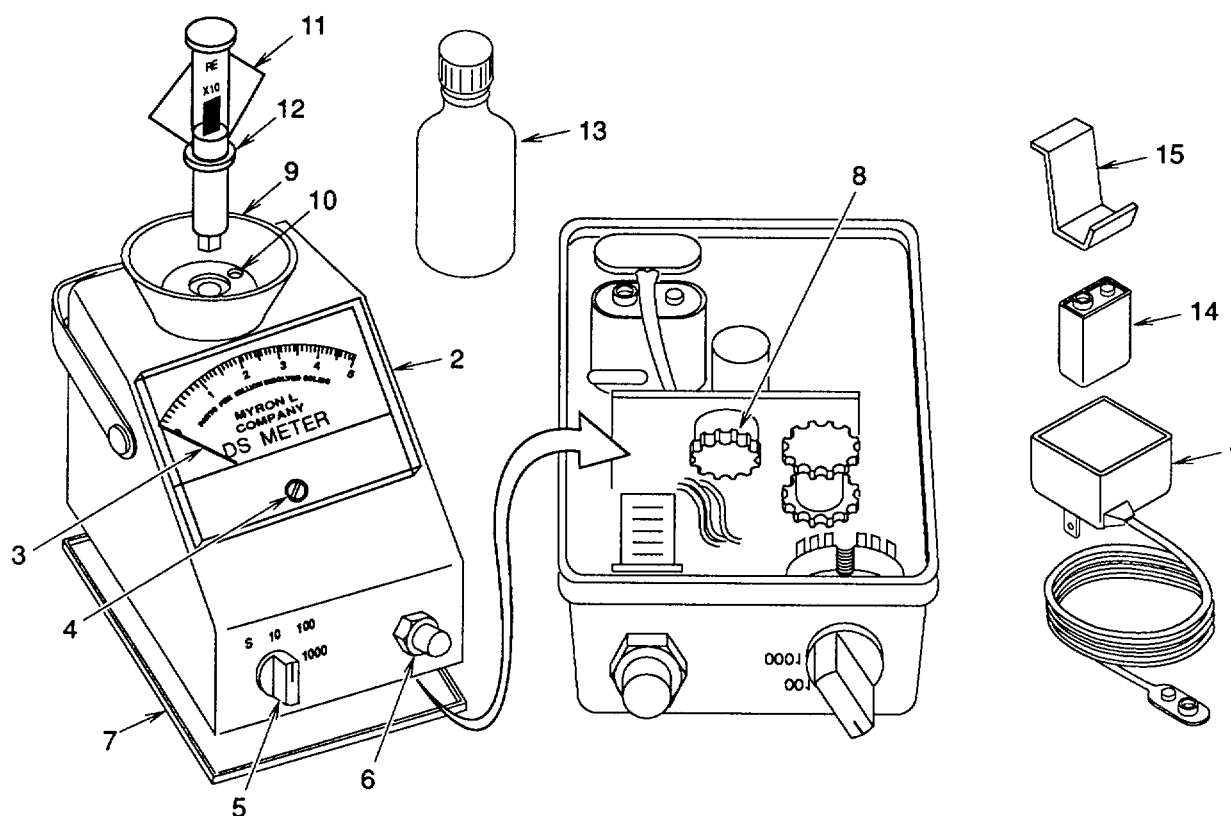

Figure 2-6. Total Dissolved Solids Test
c. Operate the meter. See figure 2-6.
- (1) If AC to DC adapter (1) is being used, connect it to a source of 120 VAC power and check meter (2) adjustment as follows.
- (a) With meter (2) off, adjust pointer (3) to zero by turning meter zero adjust screw (4).
- (b) Turn range switch (5) to S position.
- (c) Press button (6) and compare meter reading with internal standard value on label attached to bottom cover (7). If reading is different, remove bottom cover and adjust the master calibration control (8) until it matches. Attach bottom cover if removed.